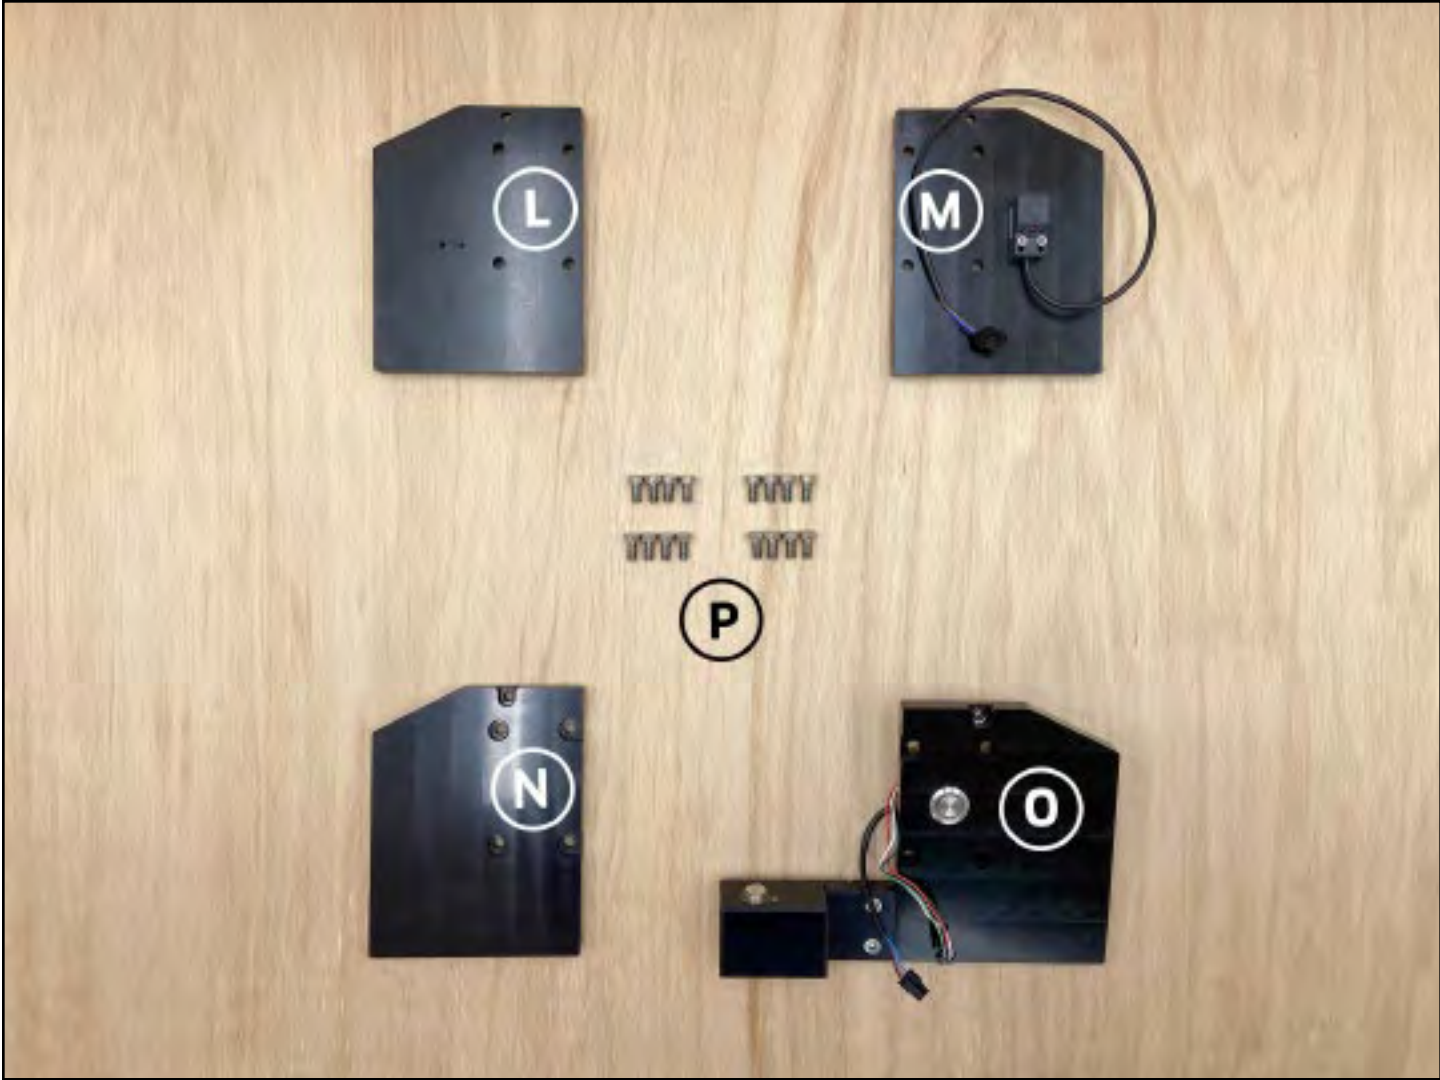

Figure 3-1
Step 3 – Endplates box contents; see **Fig. 3-1**.